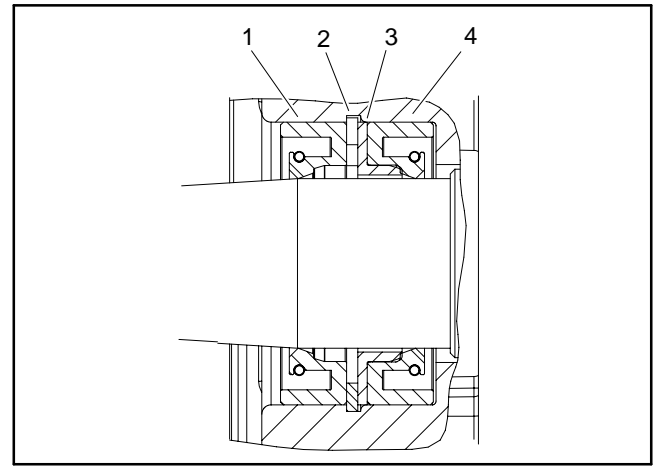

Figure 93
10. Carefully remove dust seal, retaining ring, flange washer and shaft seal from the front flange (Fig. 93). Note orientation of seal lips during removal. Discard removed seals.
2. Install new seals into front flange (Fig. 93). Note orientation of seal lips during installation: